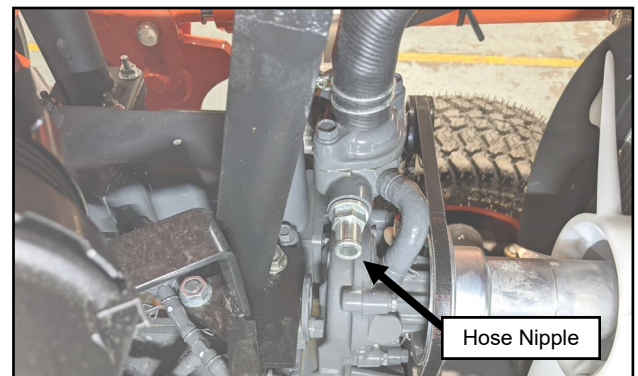

Fig. 15.12 (Install Hose Nipple)
- 15.12** Reuse the brass washer and thread in the hose nipple. See Figure 15.12.